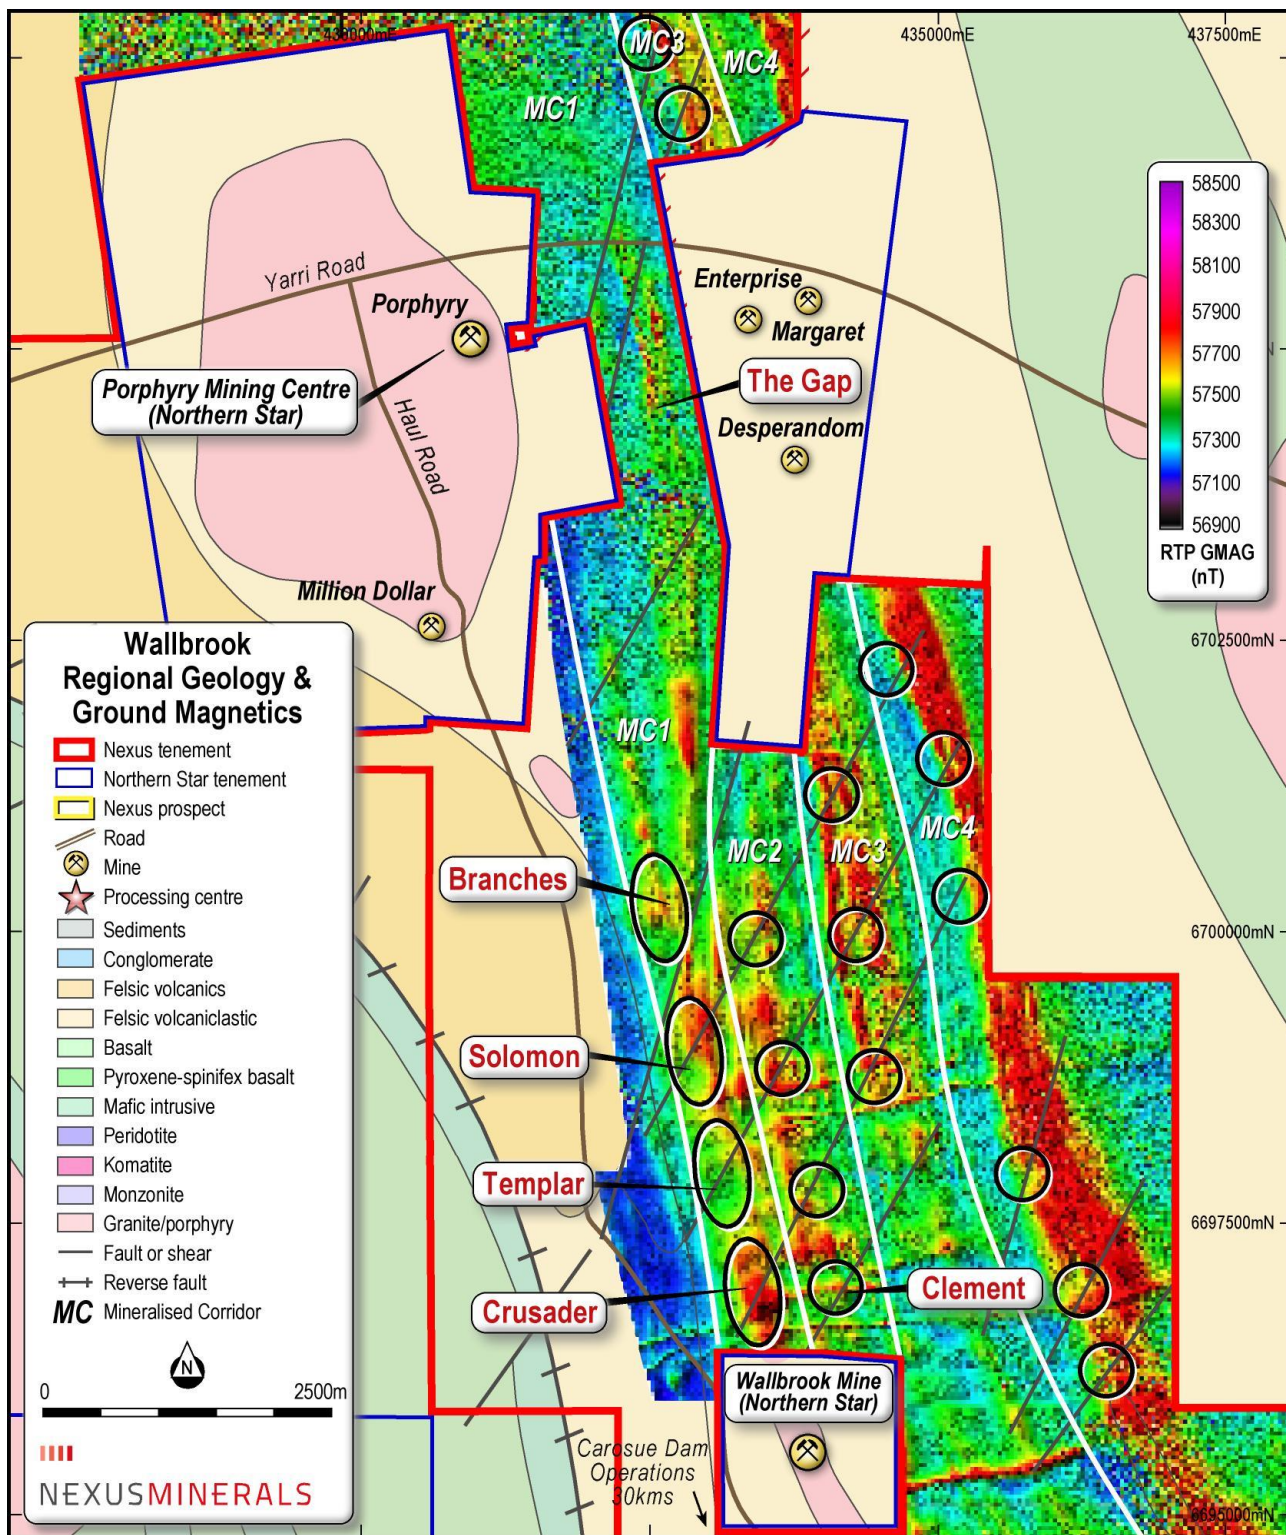

Figure 2: Wallbrook Regional Prospects – over Ground Magnetics and Geology
- **Regional Targets** –Aircore drill program planning underway to test mineralised corridors MC1, MC2, MC3 and MC4 (see Figure 2). The planned drill program will be aided by the regional geophysical program results and with the knowledge that the folded geological architecture allows for deposition of the gold in “feeder” structures and the limbs and fold closures of shallow quartz porphyry units.